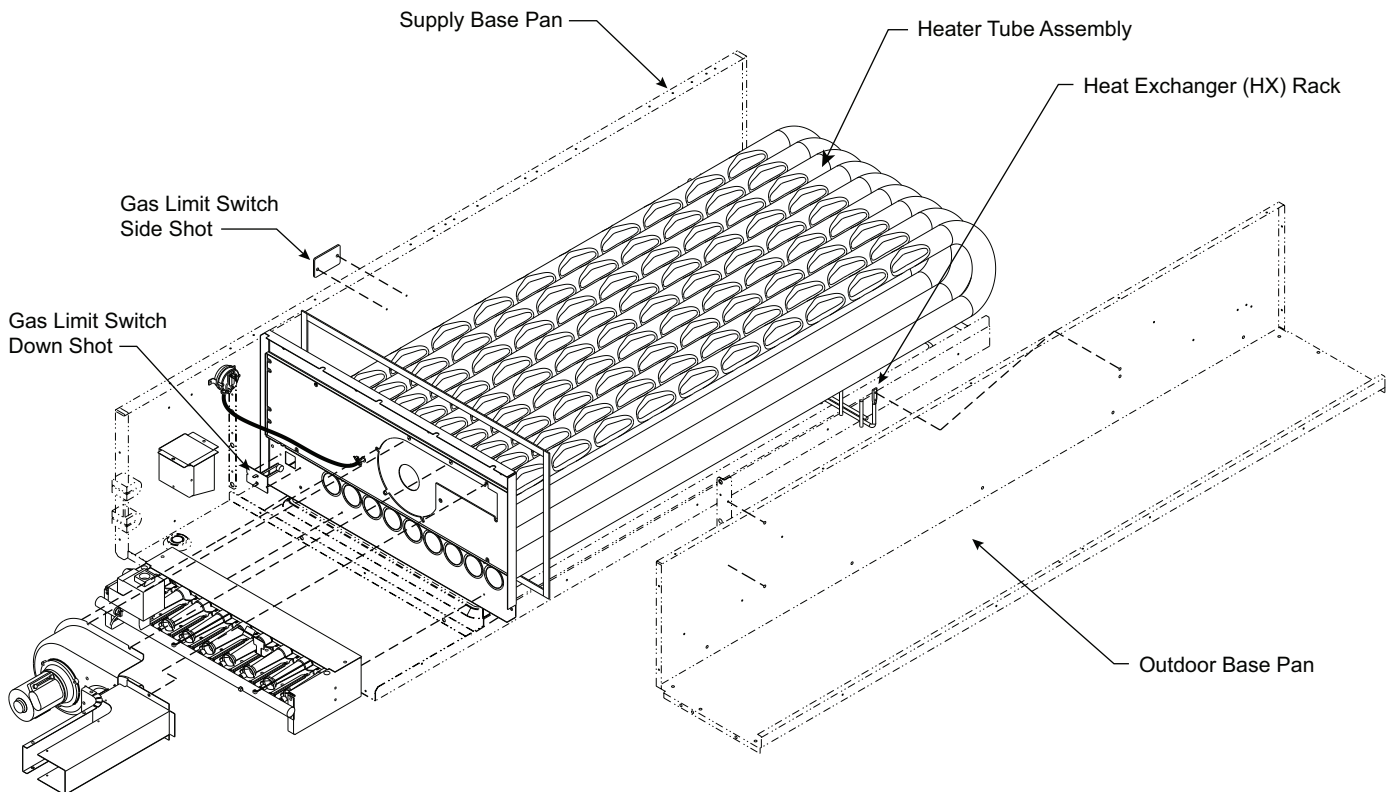

Fig. 56 — Heat Exchanger Access - Gas Limit Switches and HX Rack Locations
1. Remove the screw at the base of the burner partition panel (see Fig. 56) and slide out the panel.
12. Remove the nuts holding the heat exchanger support rack to the fan deck (see Fig. 56).
Remove the indoor blower access panel. Limit switch is located on the heat exchanger cover panel. See Fig. 56.